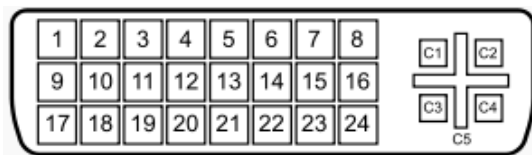

Figure 3-31: DVI-I Connector
- CN Pinouts:** See **Table 3-30** and **Figure 3-31**